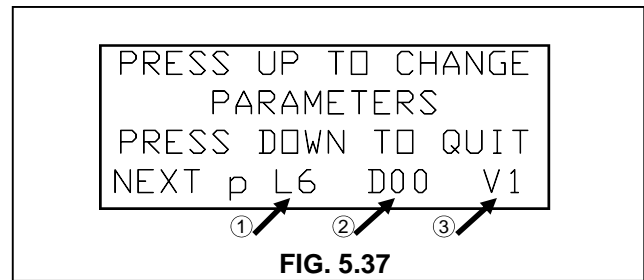
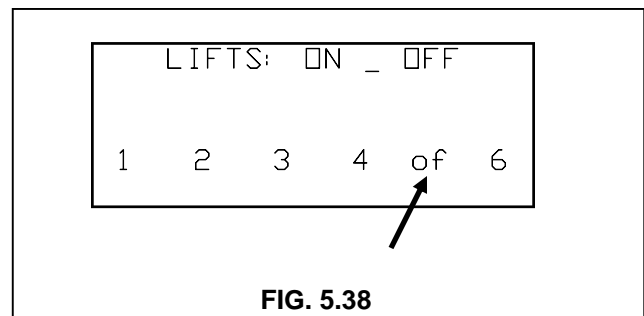

FIG. 5.37
FIG. 5.38
Press the **LIFT 1 up** button under the **PAR** on the LCD display **two times** and the display will show you how many lifts are turned on. In figure 5.37, item 1, the display shows **L6** indicating that all 6 lifts are on.
To change the number of lifts to match your machine, press the **LIFT 3 up** button under the **L** (fig. 5.37, item 1). This will display the **LIFTS: ON—OFF** screen (fig. 5.38).
Press the **LIFT 1 up** button under the **PAR** on the LCD display **two times** and the display will show the current setting of the **Dwell** (fig. 5.37, item 2) for all up and the **Valve compensation** (fig. 5.37, item 3) as either **1 = on**, or **0 = off**.